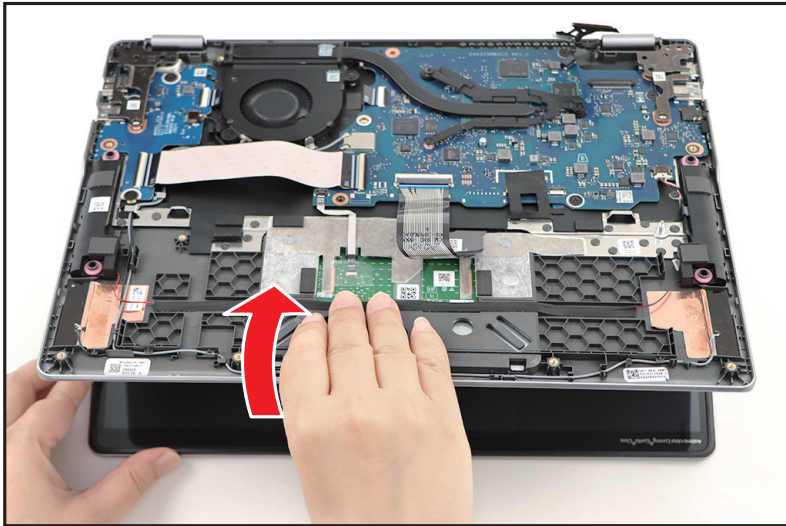

Figure 1-15. LCD Module Removal
3. Lift the top assembly until it is fully open (Figure 1-15).